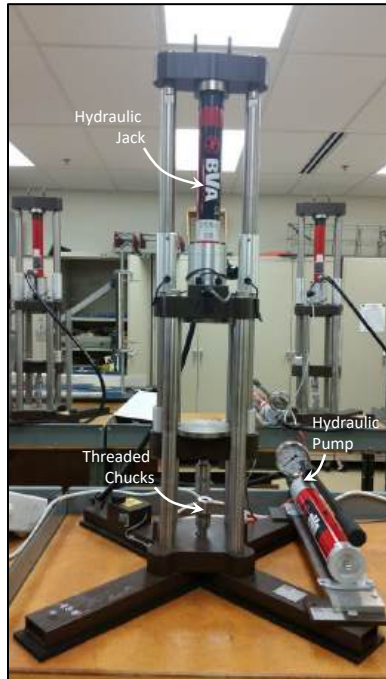

Figure 1 Uniaxial Tension Testing Machine
- b. **Universal Testing Machine (UTM):** Confirm the chucks on the UTM (see Figure 1) are screwed in all the way to avoid stripping the threads. Check rods supporting the hydraulic jack to ensure they are vertically straight and not twisted.